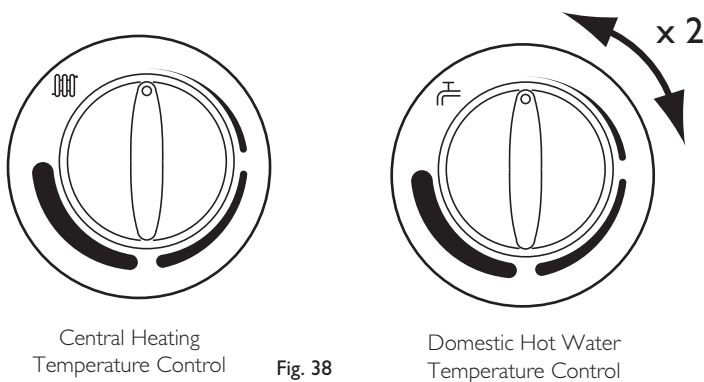

Fig. 38
3. Turn both temperature control knobs fully anticlockwise, then quickly turn the DHW temperature knob  $\frac{1}{4}$  clockwise twice and back fully anticlockwise (Fig. 38).